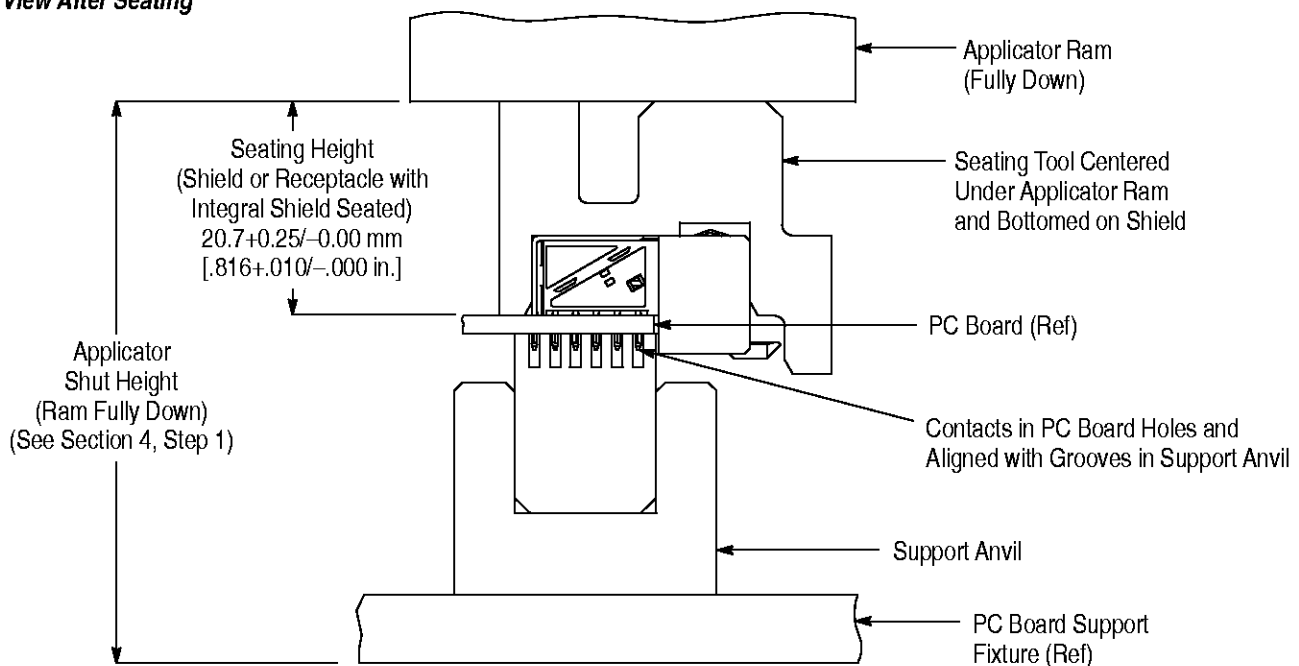

Figure 2
1. Set seating height to the dimension shown in Figure 2 (applicator *shut height* will equal the seating height PLUS the combined thicknesses of the pc board, support anvil, and pc board support).
3. Position shield or receptacle (with integral shield) onto the pc board so that the contacts are properly aligned to the pc board and the support anvil. See Figure 2.
7. Cycle applicator ram according to instructions for the power source. Check assembly for proper seating using the requirements in Figure 2.